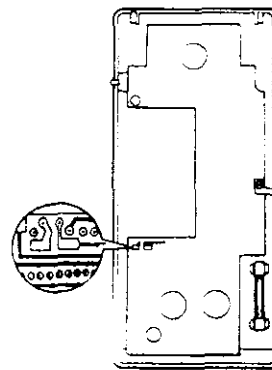

FIGURE 5-1
- B. Short C204 (there are two pads provided on the A/D board in order to short C204, refer to Figure 5-1) and adjust R205 for 000 0.